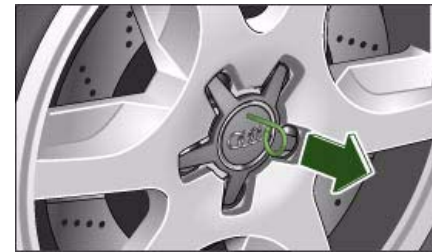

Fig. 241 Changing a wheel: Removing a hub cap
- Pull off the **hub cap** ⇒ fig. 241. ■
- Pull off the **hub cap** ⇒ *page 261*, fig. 241.
- Insert the adapter ② completely into the wheel bolt ①.
- Fit the box spanner as far as it will go over the adapter ②.